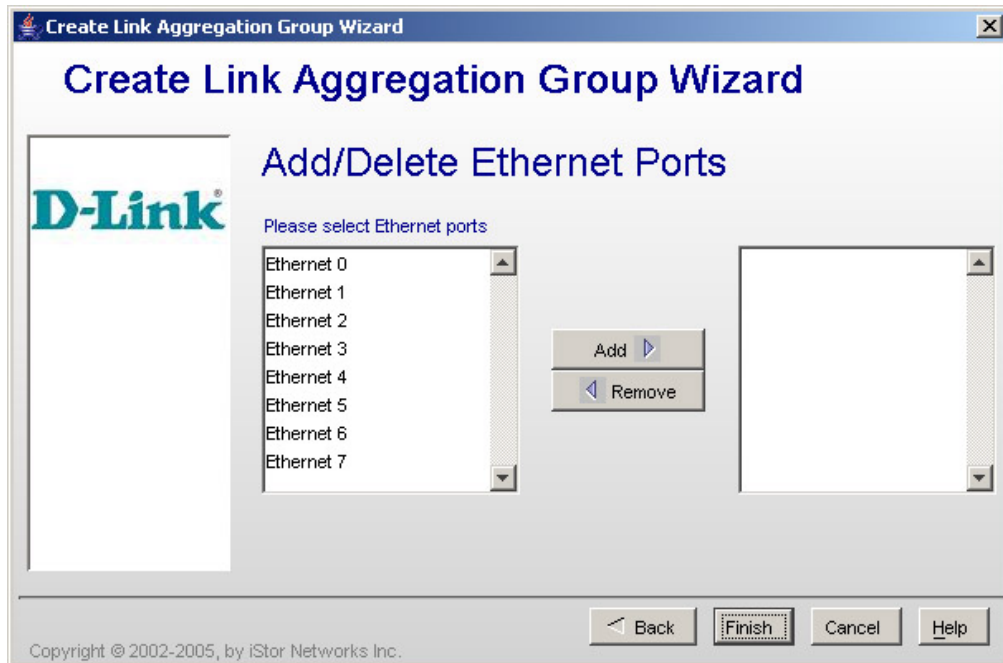

Figure 5-25 Create Link Aggregation Group Wizard - Add/Delete Ethernet Ports Screen
6. Click the **Next** button. The Add/Delete Ethernet Ports screen appears (see Figure 5-25).